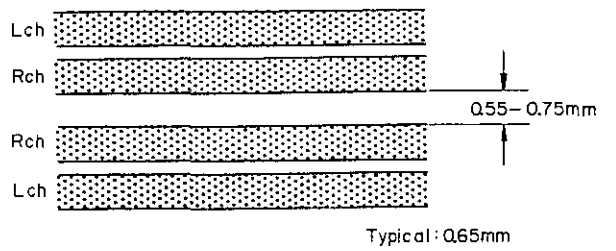

Fig. 4.21
- Immerse the recorded tape in a magnetized developing solution. In turn, check to insure that the recording head tracks across the center are separated with a distance of 0.55 to 0.75 mm (typically 0.65 mm) as illustrated in Fig. 4.21.